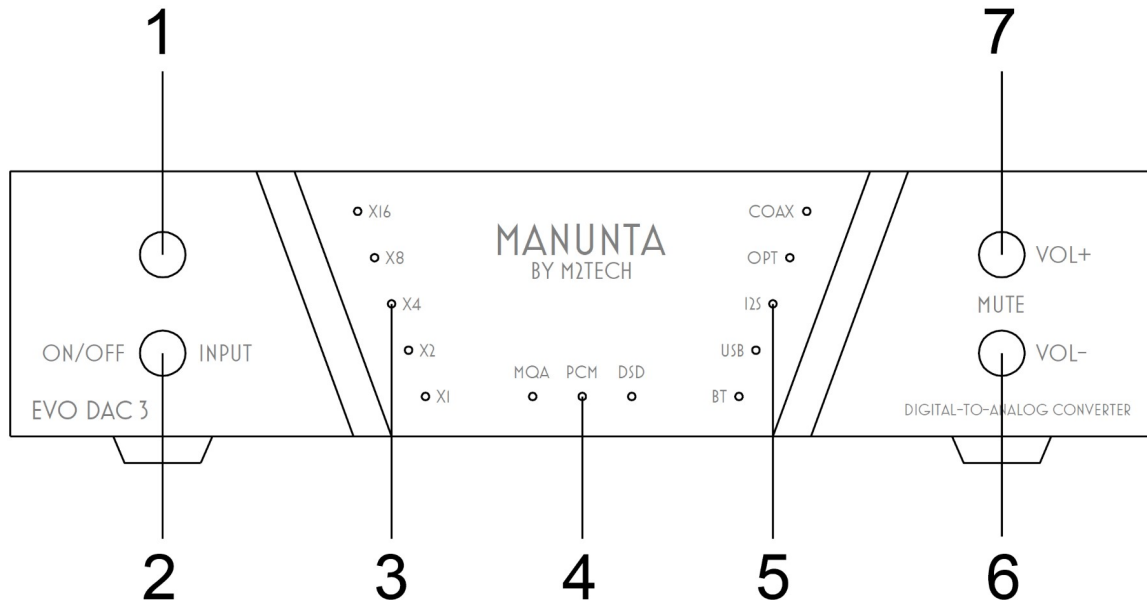

Figure 1
Switch the EVO DAC 3 on by pushing the left front panel button (Figure 1, 2). If you're using the EVO SUPPLY 3, you have to activate the output used to power the EVO DAC 3 first.
Volume setting is done by either pushing the VOL+/VOL- buttons on the front panel (item 6/7, Figure 1), by pushing the VOL+ e VOL- keys on the remote control or using the free app for Android and iOS provided by Manunta by M2Tech.
Muting is toggled by a short press of both front panel's VOL+ and VOL- buttons (item 6/7, Figure 1).